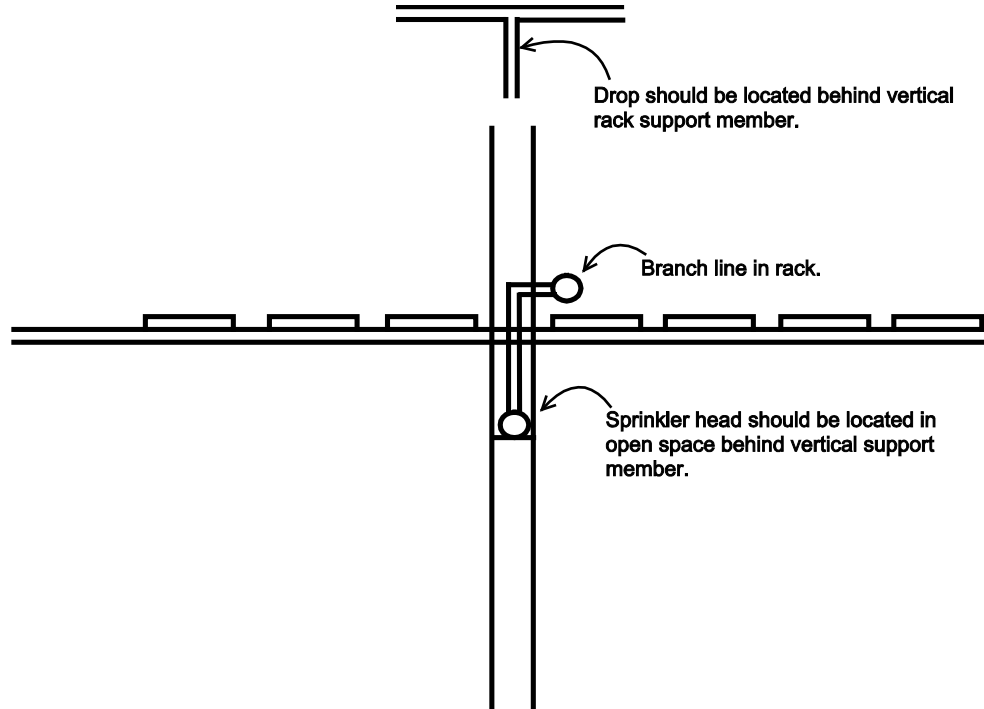

Figure 2. Rack Sprinkler Installation With No Fire Stops or Bulkheads.
- Install one level of 165°F (74°C) quick response in-rack sprinklers at the approximate mid-height in all racks with storage height over 12 ft (3.7 m) up to and including 24 ft (7.3 m). Additional guidance for in-rack sprinklers is as follows: (See Figure 2.)